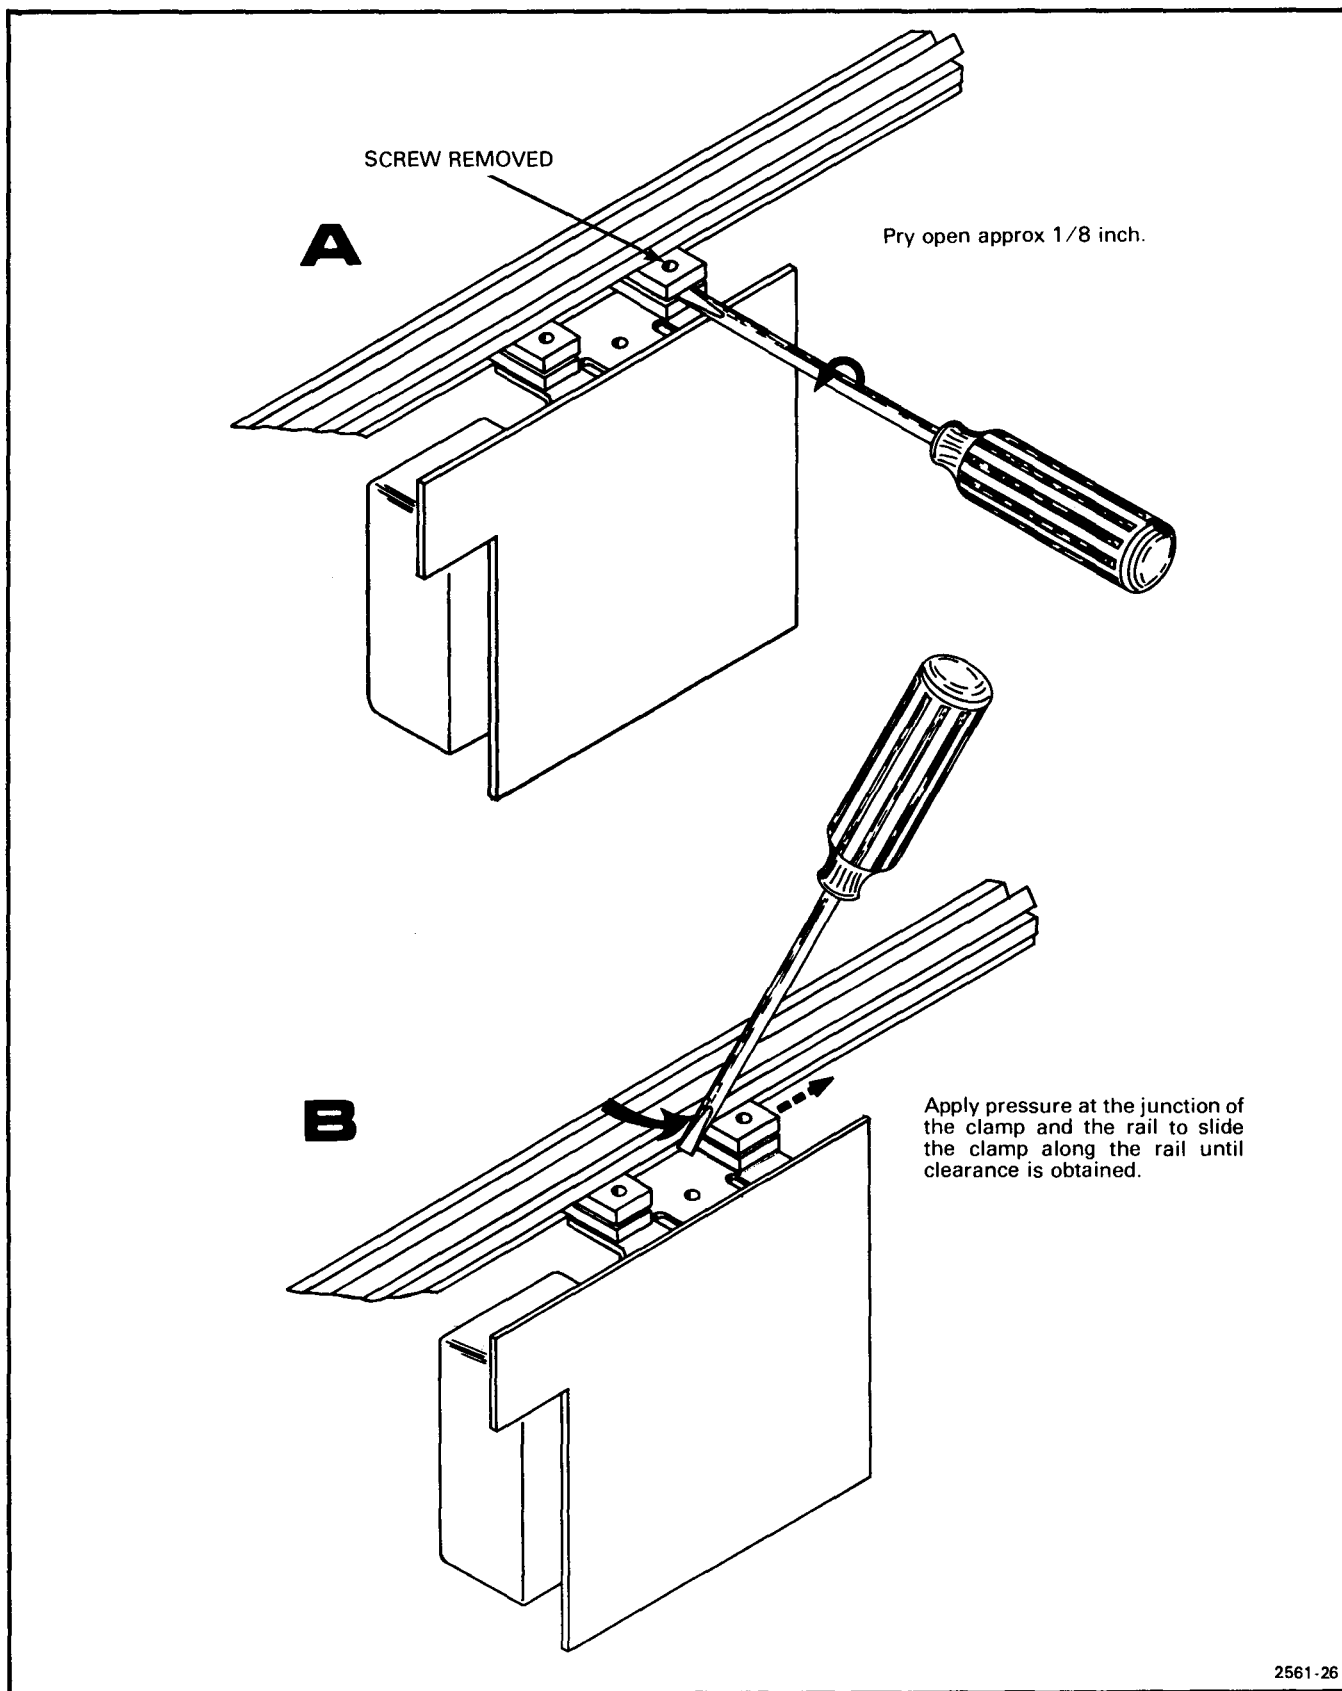

Figure 5-7. High Voltage board removal.
4. Pry the clamps open about 1/8 inch and slide clamps to either side with a screwdriver. See Figure 5-7.